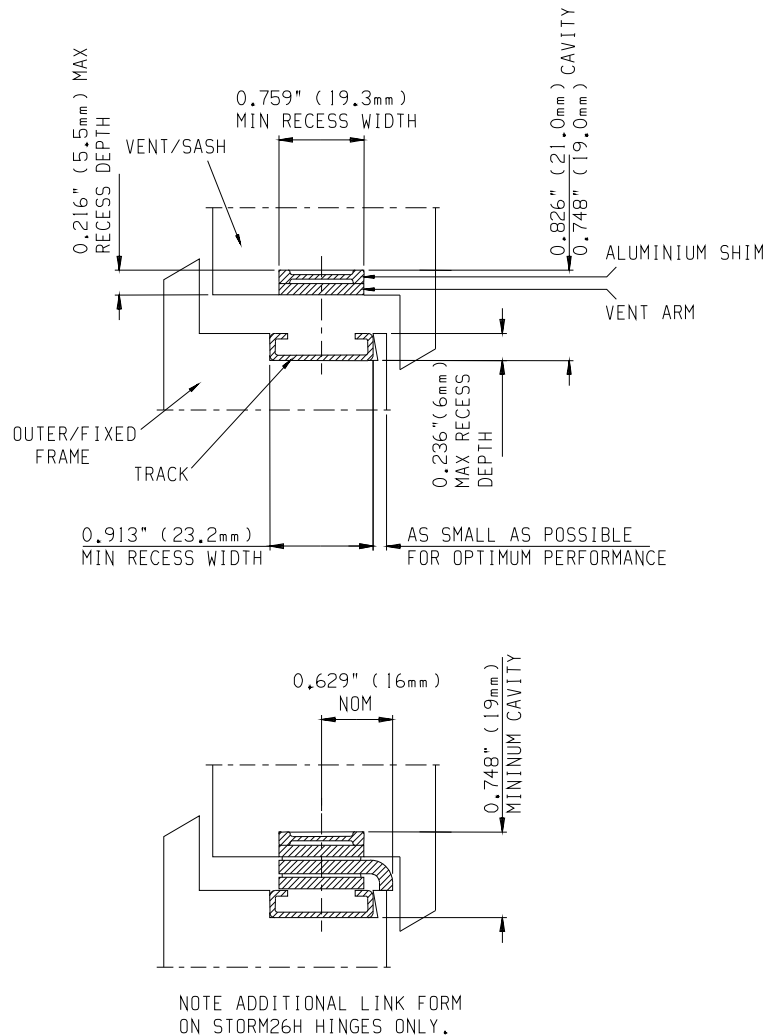

Fig. 2
- 2.1.15.1 Position the hinge vent arm against any sideways hinge location features or in the hinge location channel on the vent. If the vent does not have hinge location features, determine the correct position by referring to the profile manufacturers fabrication manual and measuring/markling, ('See 2.1.17.1; Fig.1 at 2.1.2 & Fig.2 at 2.1.5).